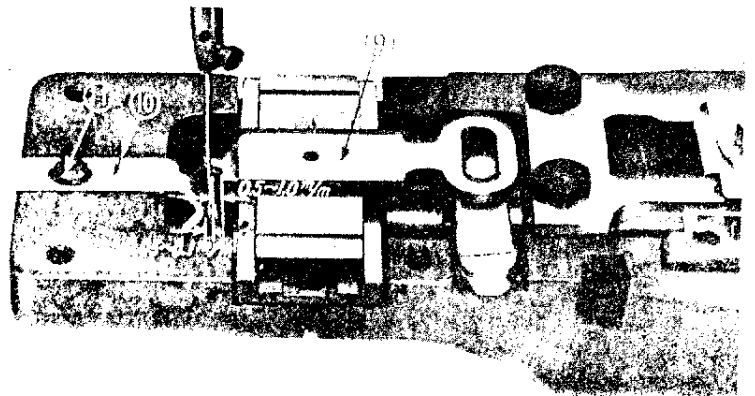

Fig. 16
POUR PREVENIR TOUT RISQUE DE DEPLACEMENT PENDANT LE REGLAGE, SERRER LEGEREMENT UNE DES VIS SUR LE COTE DE LA CAME ET DU MANCHON (6). DESSERER LA VIS (5) TOURNER LA CAME DU DOIGT DE POSITIONNEMENT (ARRIERE) ET A LA POSITION LA PLUS AVANCEE DU DOIGT - FIG. 16 (9) PRODUISE UN ESPACE DE 0.5 A 1.0MM ENTRE L'AIGUILLE ET LE BORD DU DOIGT DE POSITIONNEMENT.
S'ASSURER QUE LA LA HAUTEUR DU DOIGT - FIG 16 (9) A LA POSITION OU IL COMMENCE A SE DEPLACER DE LA DROITE VERS LA GAUCHE (FACE A LA MACHINE) EST D'ENVIRON 55 A 58MM DEPUIS LE POINT SUPERIEUR DU GUIDE AIGUILLE SUPERIEUR AU POINT SUPERIEUR DE LA BARRA A AIGUILLE. SI LA HAUTEUR EST INSUFFISANTE, CELA POURRA CONDUIRE A DES CASSES D'AIGUILLE.
15. POSITION DU GARDE AIGUILLE - FIG. 16